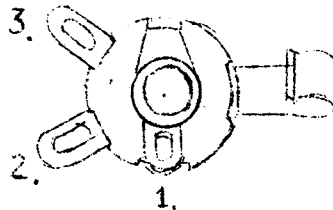

Figure 1
3. Connect a length of #20 insulated wire from pin 1 of SOX to lug 1 of J-1. See Fig. 1.
7. Connect a length of hook-up wire from pin 8 of SOX to lug 3 of key jack J-1. See Fig. 1.